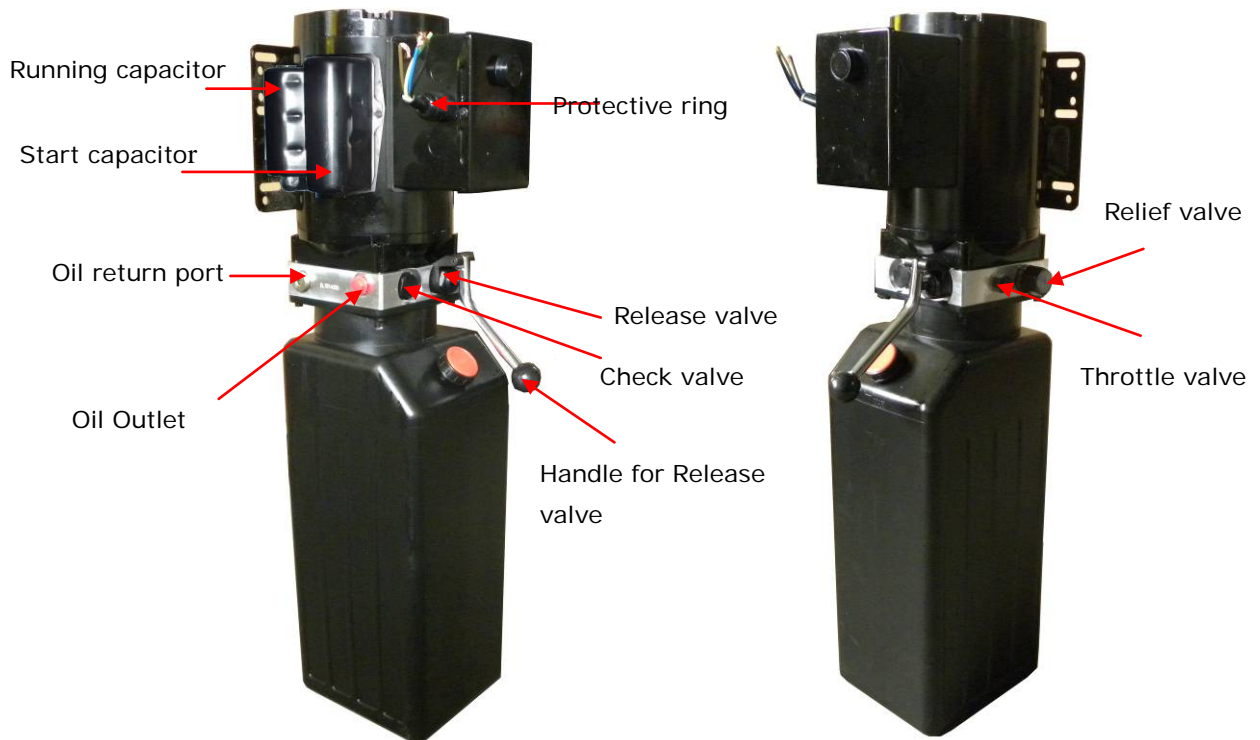

Fig. 35
b. PEAK manual power unit, 220V/50HZ, 1 phase (See Fig. 35)